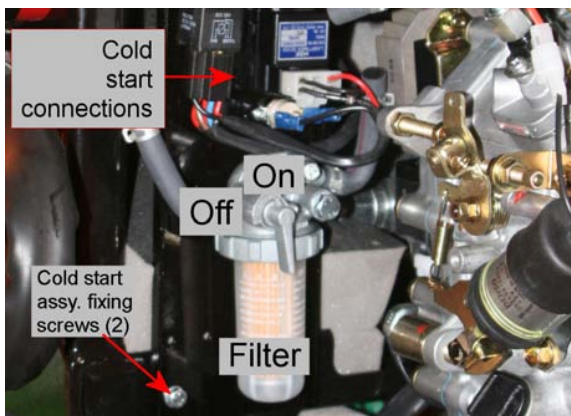

Fig 5-5 Cold start and filter
11. Remove the two Cold Start Assy fixing screws (Fig 5-5). Move this assembly to one side to gain access to the pump.